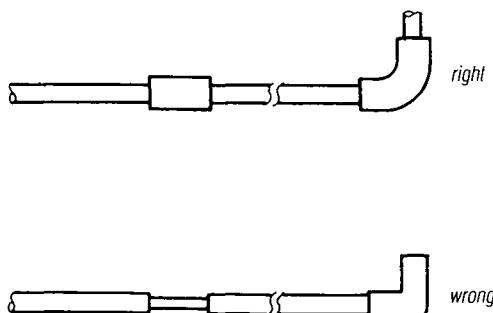

fig. 4
- The internal diameter of the lines, connection pieces and fittings should not be less than the above mentioned diameters; if necessary, swept bends should be used instead of elbows (see fig. 4).